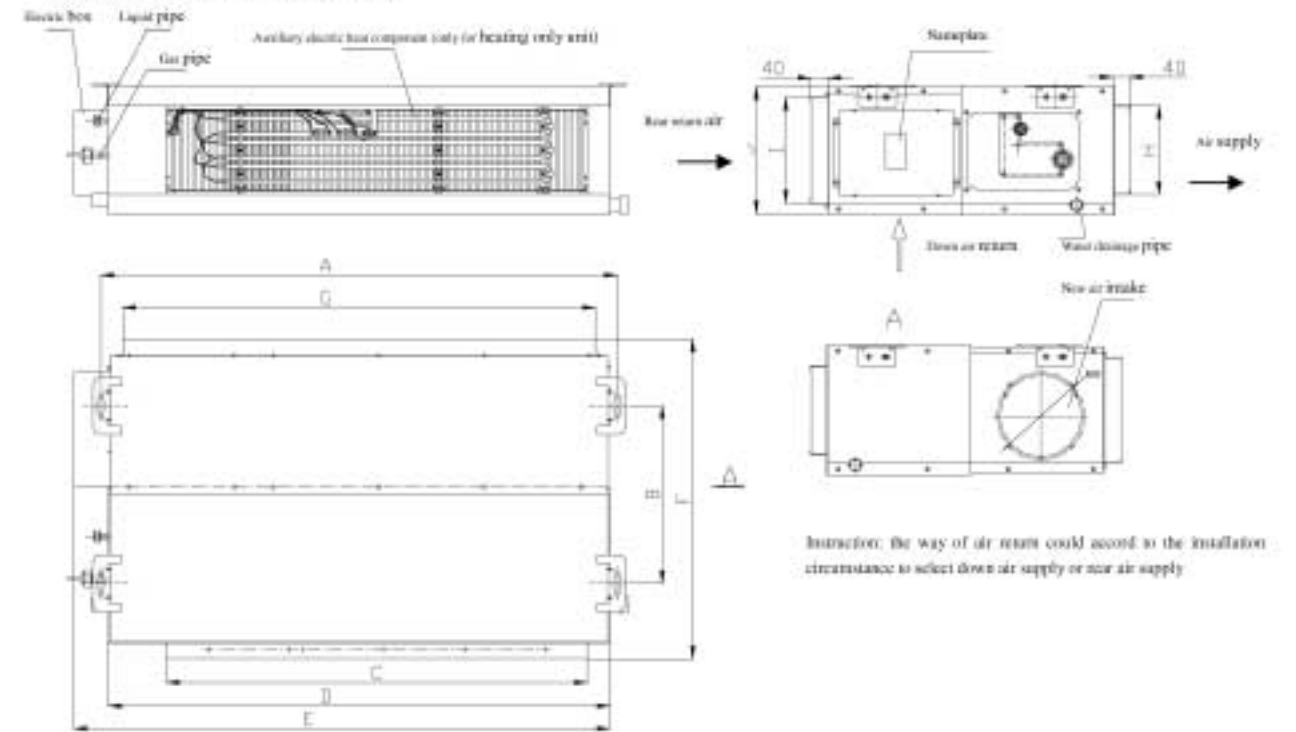
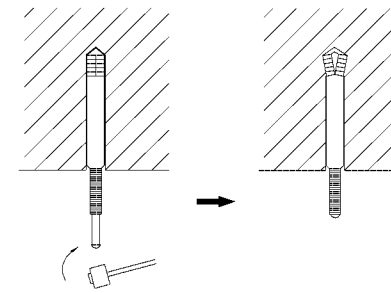

Fig.1
Fig.3
1. Insert the M10 inflate bolt to the hole then nail the iron nails into the bolts. The distance between holes is shown in Fig. 1. The install of inflate bolt is shown in Fig. 3.